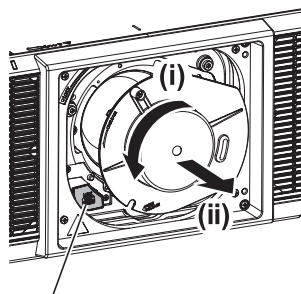

Fig 2
2) Remove the lens hole cover (Fig 2).
- While pressing the lens release button, turn the lens hole cover counterclockwise until its marker (O) aligns with the marker on the projector (O to the left of "LOCK").